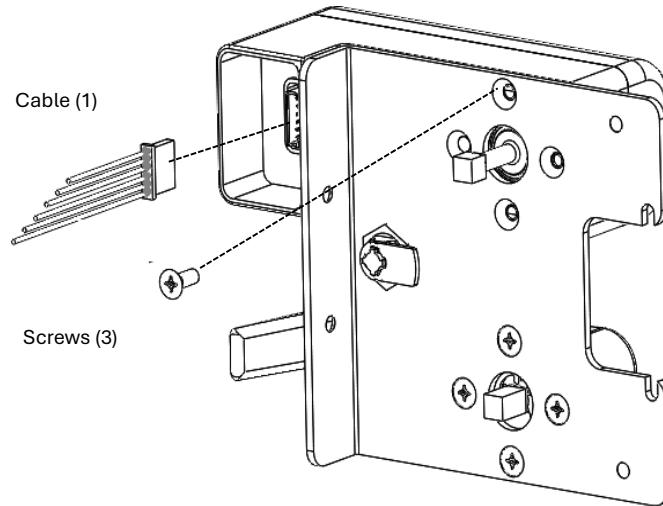

Figure 5
- c. Attach the ABR drive unit to the interior cover with (3) #10-32X1/2" flat head screws as shown in Figure 5.
- d. Insert the electrical cable into the connector on the ABR drive unit as shown in Figure 5.